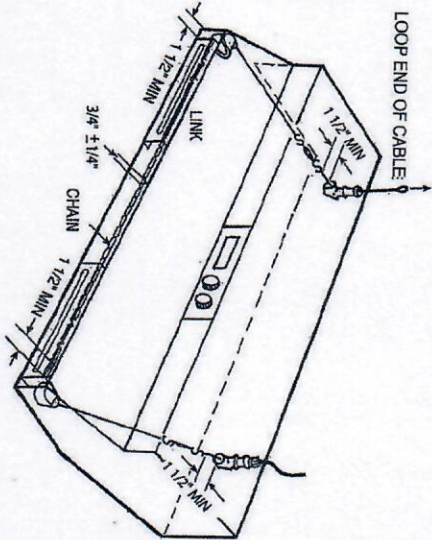
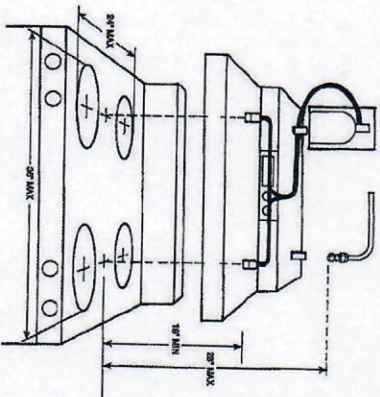

FIGURE 6
FIGURE 12
NOTE: Looped end of the cable must correspond to the extinguishing and mounting bracket kit location — left or right side of the kitchen cabinet (See Figure 6).
Position the front detection kit mounting brackets with the attached corner pulleys as close as possible to the front and outside edge of the range hood. Mark the location of the bolt holes (Figures 6 & 8).
A minimum of 1 1/2" clearance must be maintained between the nearest cable S-hook and the horizontal or vertical corner pulleys in the direction of cable movement when system is activated. Cable must be free to move 1 1/2" in the direction indicated without restriction. Angle the rear corner pulleys so that the cable enters and exits in the center of the pulley opening. (See Figure 6)
Adjust the detection kit chain between the two front fusible links so that the links are in the proper position (Figure 6 and Figure 12). After final adjustments have been made, excess chain should be removed.
Pull excess cable through the cable nut until all slack is removed and secure tightly with the set screw (See Figure 10). Make sure the fire detectors (fusible or reusable links) align according to Figures 6 and 12. If necessary, you may use extra S-hooks to adjust proper spacing, however, no more than two (2) S-hooks may be connected consecutively.